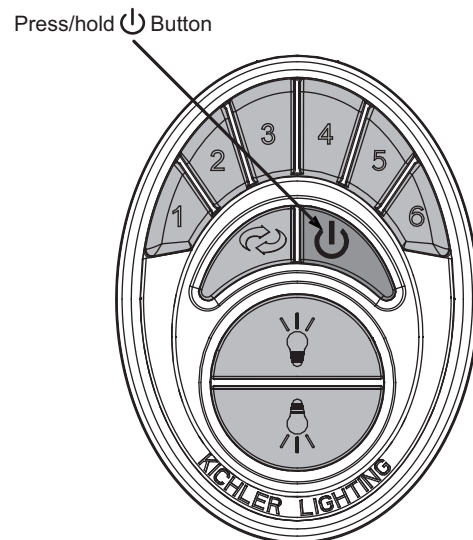

Fig. 20
4. Follow the below steps to set the remote control: The auto learning function will only mandate within 60 seconds when turning the fan's AC power ON. (Figure 20)